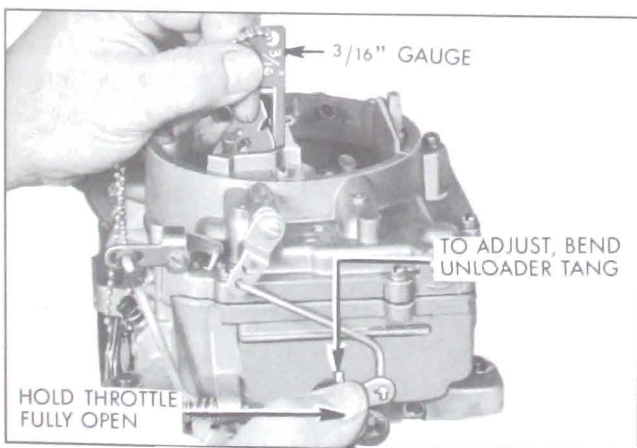

Figure 3-45—Unloader Adjustment
5. Adjust Unloader. Hold throttle wide open and check clearance between upper edge of choke valve and inner wall of air horn using a 3/16" drill. Bend unloader tang on throttle shaft lever as required to obtain this clearance using pliers. See Figure 3-45.